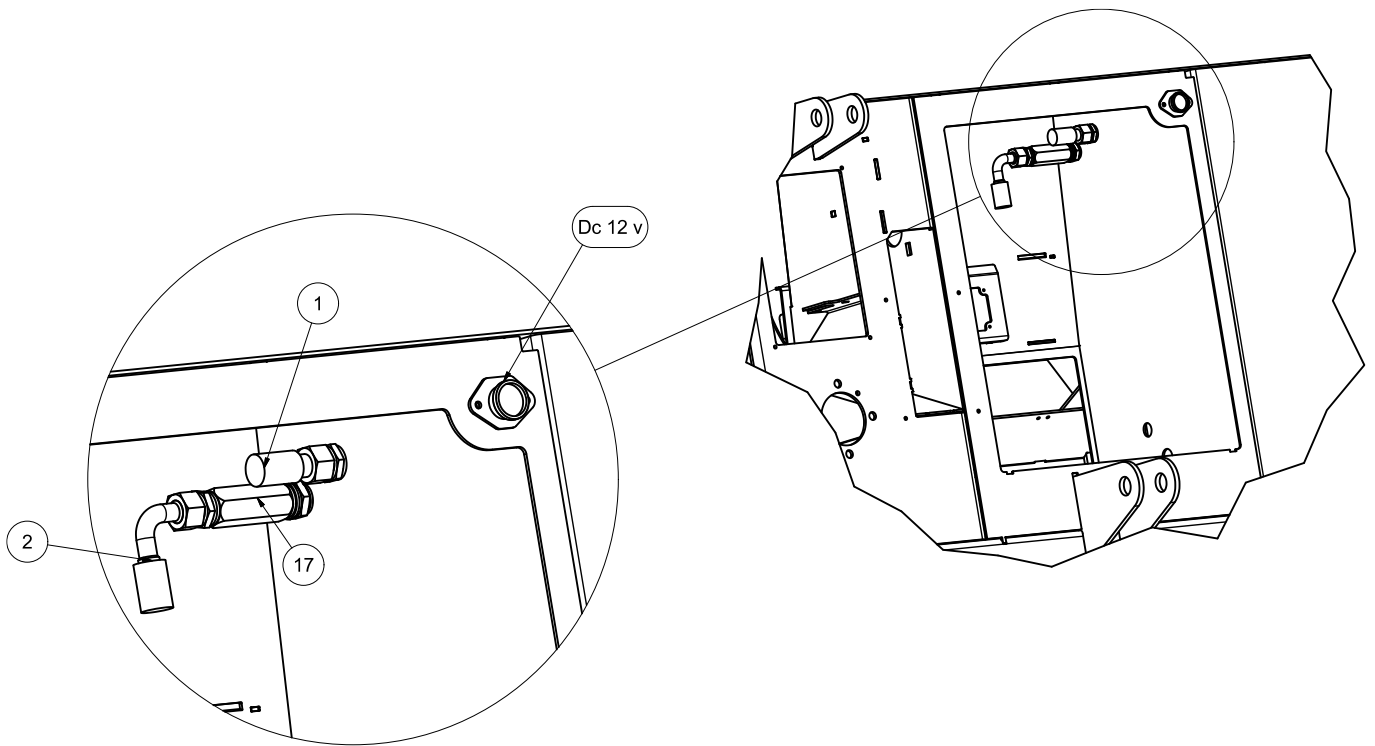

Figure 5 With cooler
3. Mount non-return valve (18) as shown in Figure 5.
6. Connect the power cord to the electrical contact Dc 12 v., Figure 5. Blue are negative. The cooler starts at about 50 degrees temperature. Remember to look for rotation when the fan starts. If the fan runs in the wrong direction, the cable lugs must be replaced.